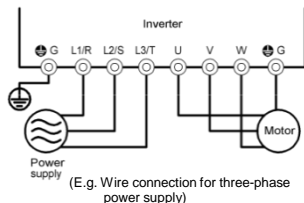

Figure 4.1 Connection of Main Circuit Terminals
- (1) Check the wiring to the power input terminals (L1/R, L2/S and L3/T or L1/L and L2/N) and inverter output terminals (U, V and W). Also check that the grounding wires are connected to the grounding terminals correctly. See Figure 4.1.